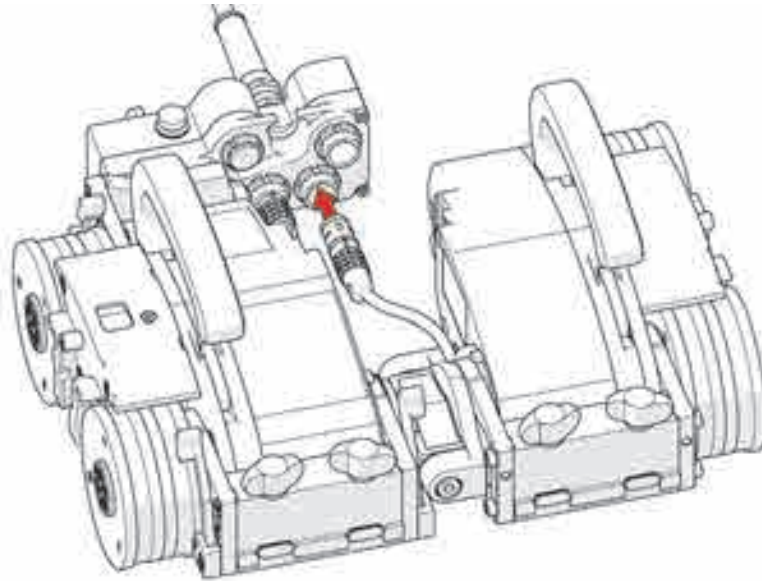

Figure 4-26 Connecting the left drive module to the umbilical
- ◆ Connect the cord of the left drive module to the 8-pin connector of the umbilical indicated in Figure 4-26 on page 110. For a detailed view of the umbilical connections, see “Umbilical” on page 114.